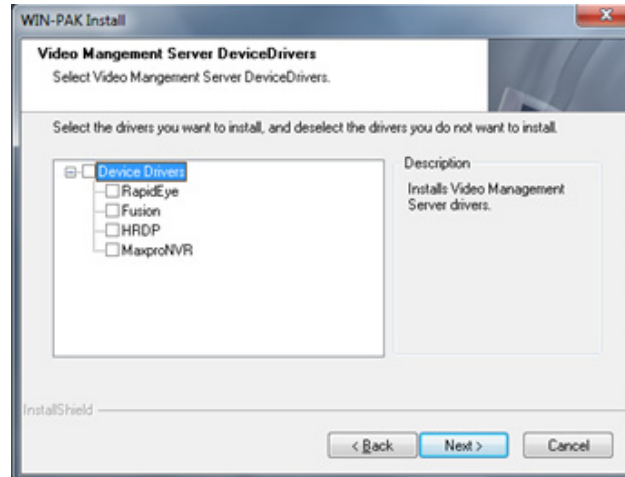

Figure 2-17 Selecting the Device Drivers
6. Click **Next**. *Figure 2-17* appears.